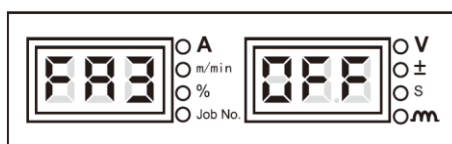

Figure 3-33 Screen for FA3 display
1. Enter the internal menu, adjust the knob on the panel of welding power source to **FA3**, the digital tubes will display as shown in Figure 3-33.